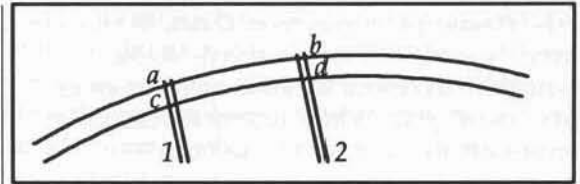

Figure 4
In **Obj Snap** (X), turn *End* (F2) off and verify that only *Intsect* (F7) is on. In *1Ln Trim* (;, F9, F4), at the prompt: "Enter first point of line to trim to," snap to the intersection point marked *a* in Figure 4. At the prompt: "Enter second point of line to be trimmed to," snap to intersection point *b*. At the prompt: "Point to outside," point with the left mouse button anywhere above the trim line. Verify that selection by *Entity* (F1) is active and, at the prompt: "Select entity to trim," point first to line 1, then to line 2.